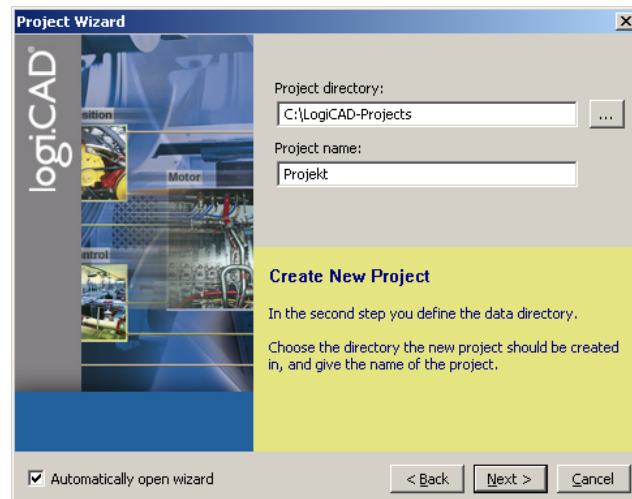

Figure 15: Project name and path
5. Specify the name of the project and the path where to store the project files, see Figure 15.